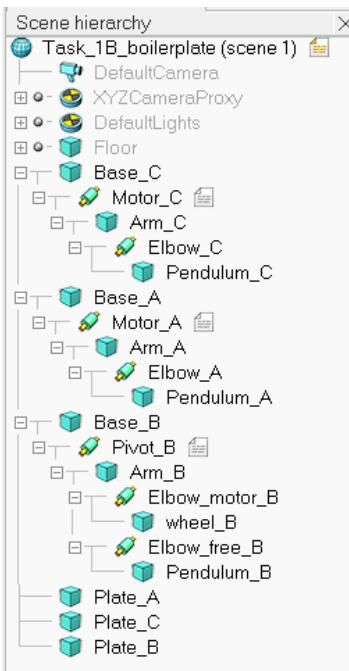

Figure 2: Example of Scene Hierarchy
- You'll find a hierarchical tree structure similar to the one shown in Figure 2.
- You'll find a script icon near the Motor & Pivot as shown in Figure 2.